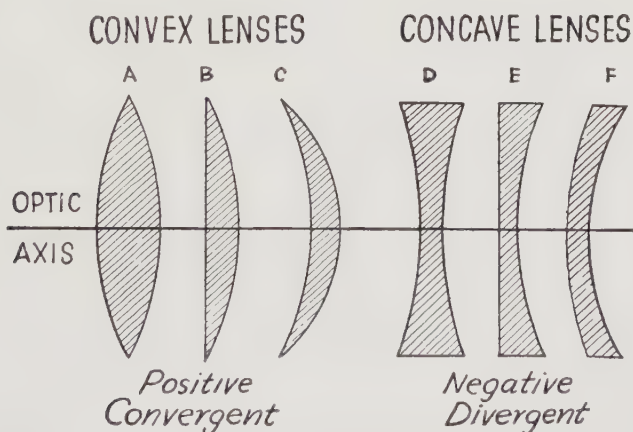

FIG. 17. THE DIFFERENT KINDS OF LENSES
class, of which there are three, are those that curve out on one or both sides, and the second class, of which there are also three, curve in on one or both sides. These lenses are shown in *Fig. 17* and are (1) the *biconvex*, or *double convex*, (2) the *plano-convex*, and (3) the *converging*, or *positive meniscus*.⁴ All belong to the first class.